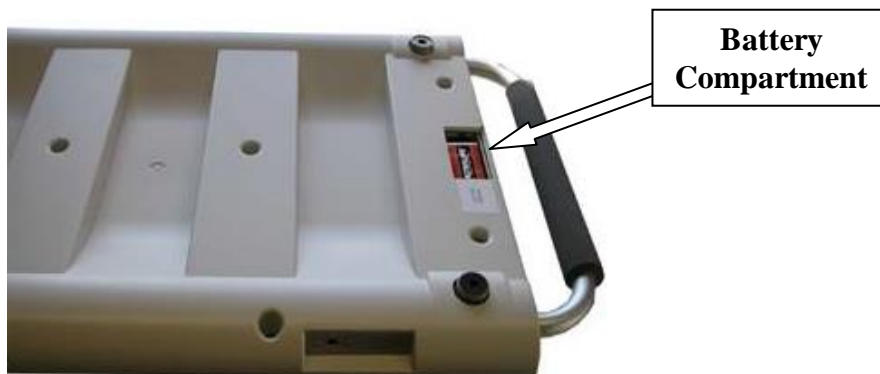

Figure 1: Battery Compartment
STEP 2: Turn the SRV930 scale over and slide open the battery compartment cover (Figure 1). Insert the supplied 9-volt battery per the instructions in the **BATTERY REPLACEMENT** section. Slide the battery compartment cover closed until it's secure. Turn scale over.